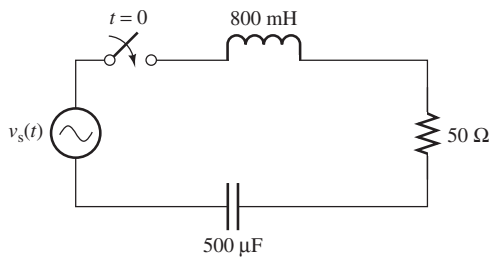

FIGURE P5.54 Circuit for Problem 5.54.
5.54 (H) The switch closes at $t = 0$ s. Find the expression of $v_C(t)$ for Figure P5.54, if the voltage source is $V_S(t) = 20 \sin(50t)$.